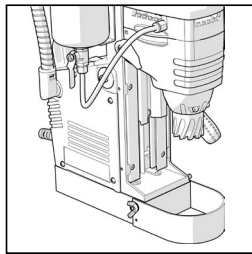

Fig. 2
- Attach the Safety Guard and secure in place using the supplied fixing screws. (Fig. 2)